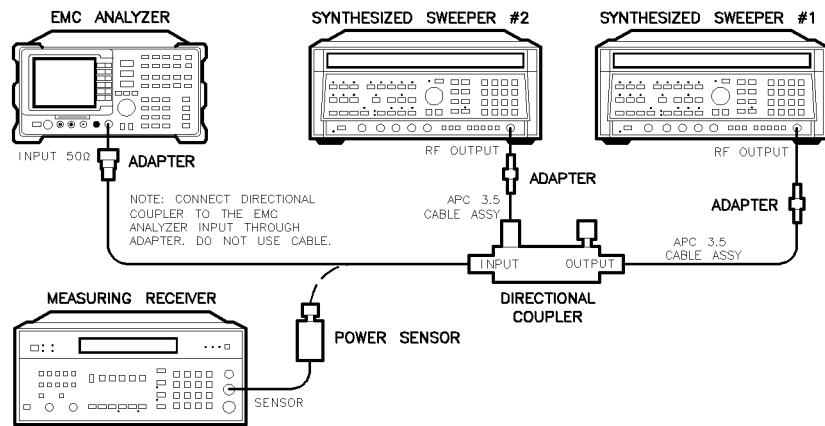

Figure 2-46.
- Connect the equipment as shown in Figure 2-46 with the input of the directional coupler connected to the power sensor.